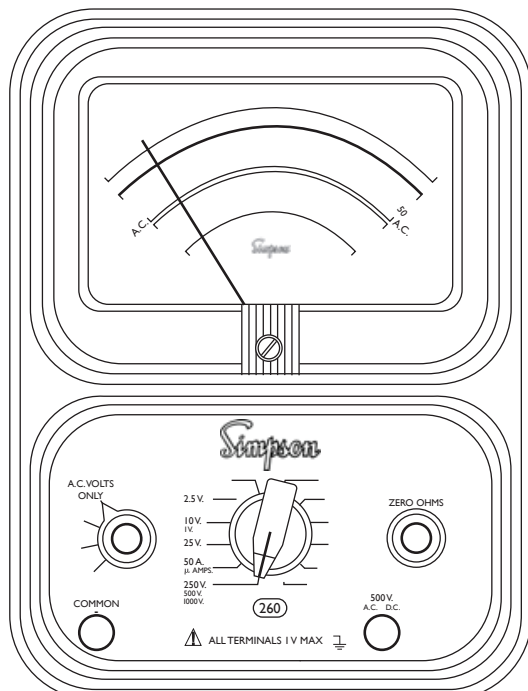

FIGURE 4-6. Jacks and Switch Positions for Measuring AC Voltage 0 Through 500V Range
- a. Set the function switch to AC Volts Only position (Figure 4-6).